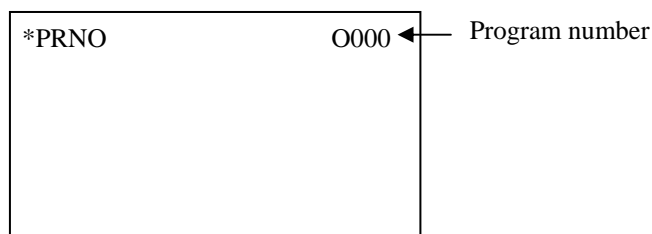

Fig 6.1
1. Press TAPE key twice in 0.5 seconds to be in PRNO mode and the LCD display is shown as Fig 6.1